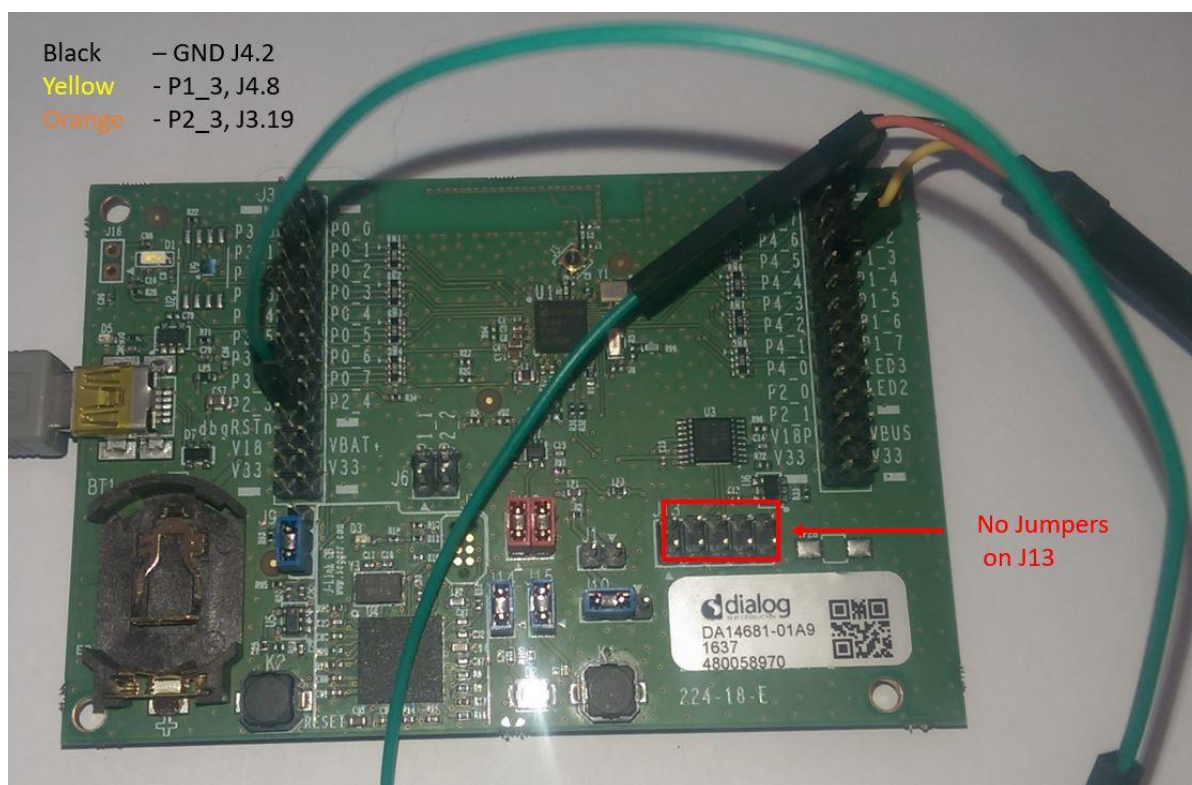

Figure 15: FTDI cable connected to UART on Basic DK with no flow control
- The application is controlled using text-based menu via UART1 which is accessed through the virtual COM port over USB on Pro DK (ensure jumpers are fitted on J15.1-2 and 3-4). **On the Basic DK it must be accessed via an RS232-TTL level converter cable such as an FTDI TTL-232R-RPi. This demo does not use flow control and so the FTDI cable must be connected as follows. The orange wire is connected to P1\_3 (Rx), the yellow wire is connected to P2\_3 (Tx) and the black wire is connected to GND (J4.2). There must also be no jumpers on J13.** This is shown in Figure 15.